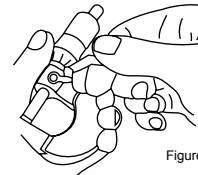

Figure 1
- When the alignment error is ±0.01 mm or less (Figure 1 and 2)